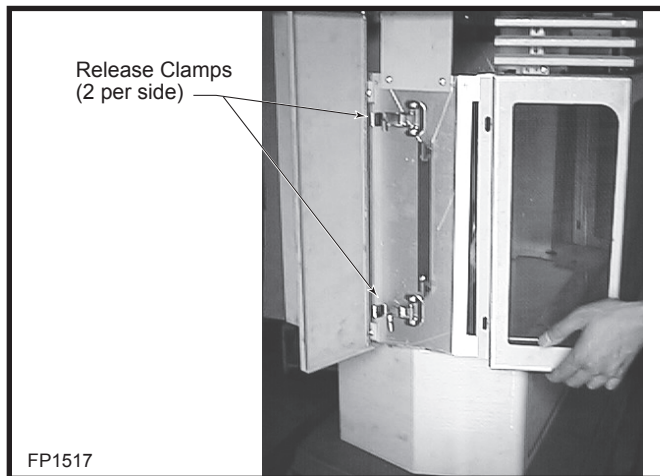

Fig. 26 Window frame removal.
4. Open the clamps on the two sides. (Fig. 26)